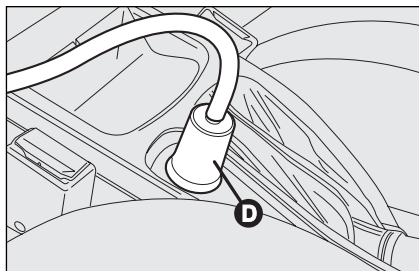
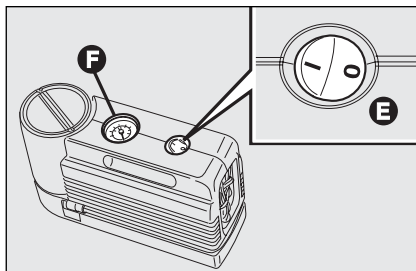

fig. 15
fig. 16
- make sure the compressor switch **E-fig. 16** is set to **0** (off), start the engine and fit plug **D-fig. 15** into the cigar lighter outlet and then turn on the compressor by setting switch **E-fig. 16** to **I** (on). Inflate the tyre to the pressure specified in paragraph “Cold tyre inflation pressure” in section “Technical Specifications”. Check tyre pressure on gauge **F-fig. 16** with compressor off to obtain precise reading;